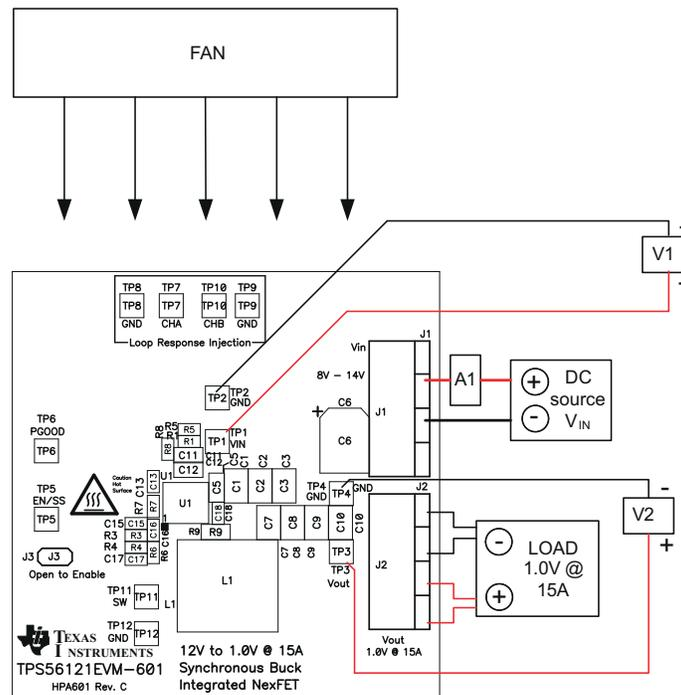

Figure 5-1. TPS56121EVM-601 Recommended Test Setup
Figure 5-1 is the recommended test setup to evaluate the TPS56121EVM-601.
2. Prior to connecting the DC input source, V_{IN} , it is advisable to limit the source current from V_{IN} to 3.0 A maximum. Make sure V_{IN} is initially set to 0 V and connected as shown in Figure 5-1.
3. Connect V_{IN} to J1 as shown in Figure 5-1.
4. Connect ammeter A1 between V_{IN} and J1 as shown in Figure 5-1.
5. Connect voltmeter V1 to TP1 and TP2 as shown in Figure 5-1.
6. Connect voltmeter V2 to TP3 and TP4 as shown in Figure 5-1.
7. Place the fan as shown in Figure 5-1 and turn it on, ensuring that the air blows directly across the evaluation module.
1. Set up the EVM as described in Section 5.3 and Figure 5-1.